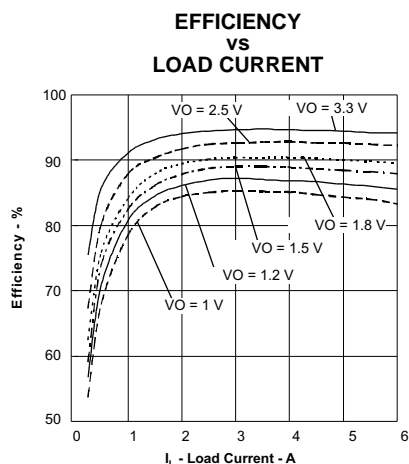
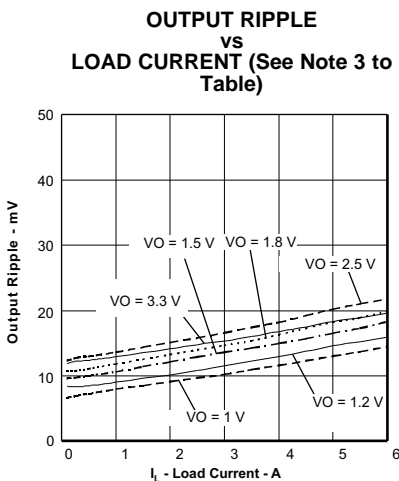
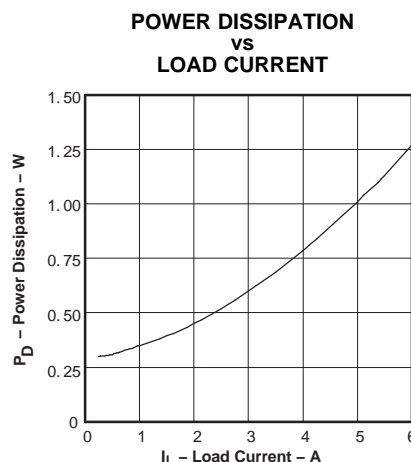

Figure 1.
Figure 2.
Figure 3.
- (1) Characteristic data has been developed from actual products tested at 25°C. This data is considered typical data for the converter. Applies to Figure 1, Figure 2, and Figure 3.